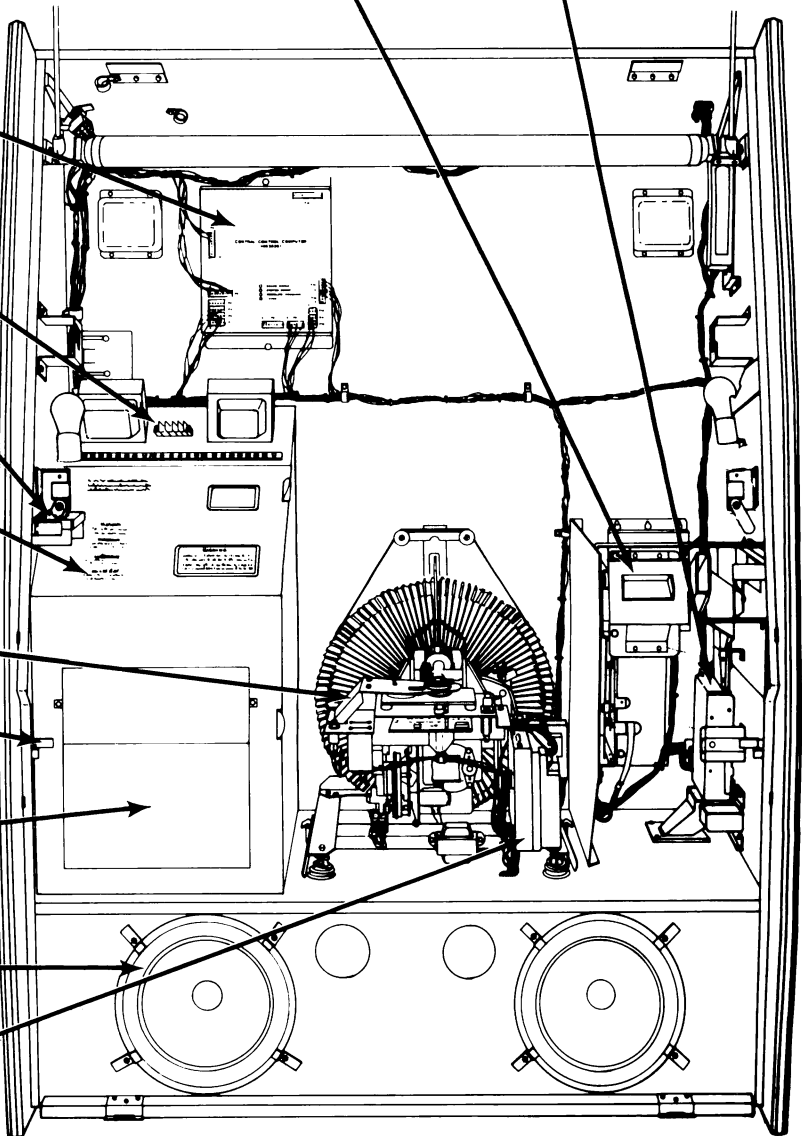

Figure 1-1. CD-100A Major Components
2. Open the front door by pressing down on both front door latches (*see figure 1-1*).
Figure 1-1 shows the major CD-100A Phonograph components. Take a minute to familiarize yourself with these components.